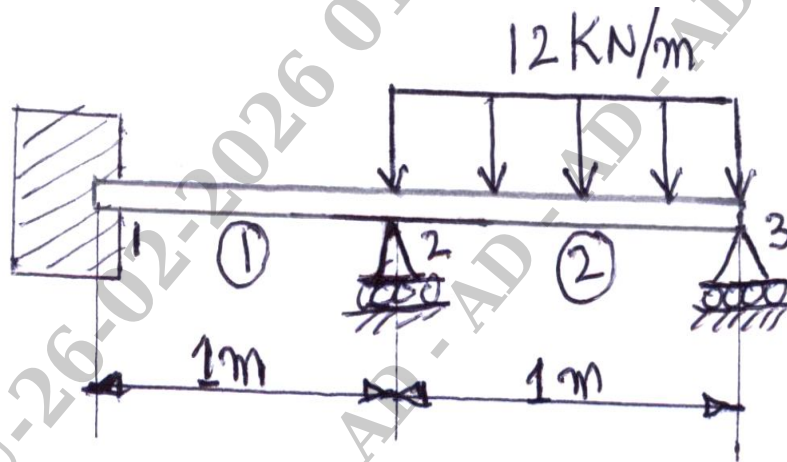

Fig. Q. 5 (b)
b. For the beam and loading shown in fig. Q. 5(a) , determine the slopes at 2 and 3 and the vertical deflection at the midpoints of the distributed load.